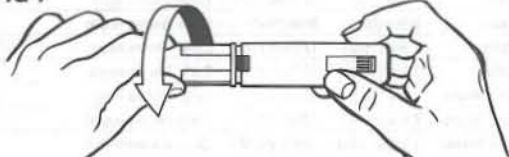

FIG 8
5. Select your site for injection and place the Autoject 2 against the skin (Fig 8).